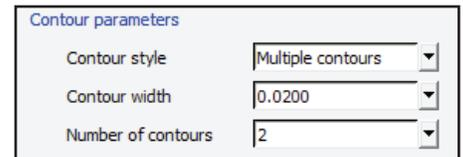

Figure 52: Custom group settings for solid fills using “Multiple contours.”
5.4.3. Define toolpath settings (Figure 52).